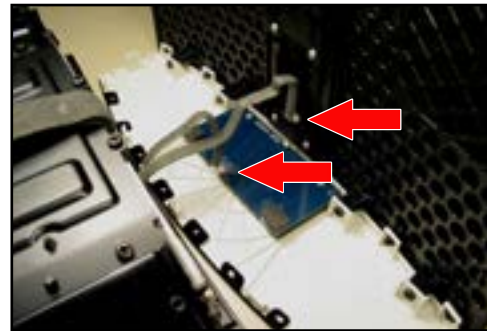

Figure 24. FFC Connection
5.1 Connect the FFCs from the Wi-Fi module to the button and display PCB. Figure 24.
5A.1 Connect the FFCs from the Wi-Fi module to the button and display PCB. Figure 24 on previous page.